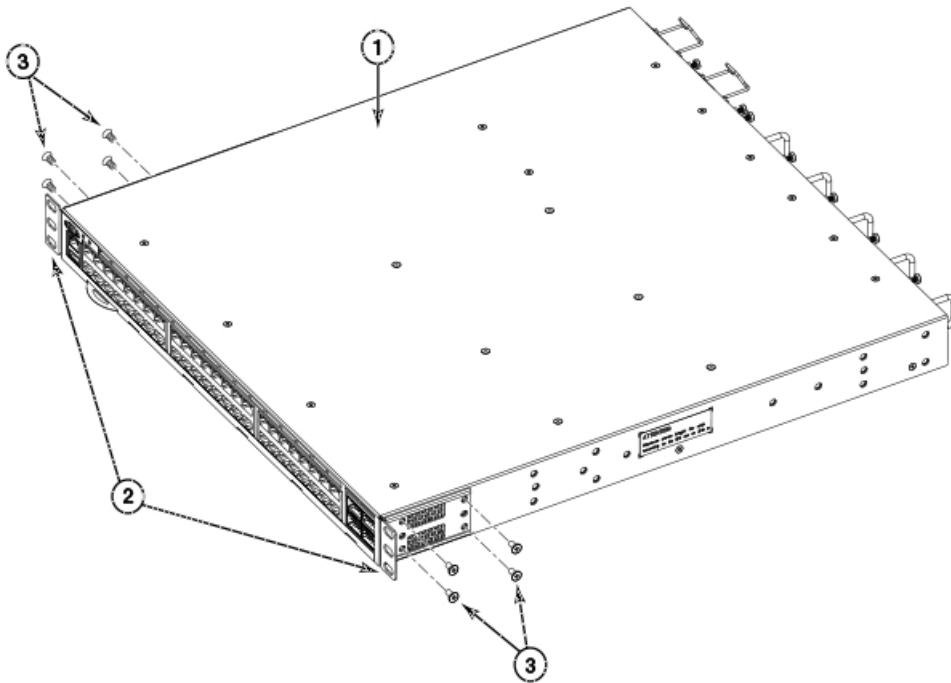

Figure 4. Attaching the front brackets
1. Position the right front bracket with the flat side against the right side of the device at the front of the device, as shown in Figure 4 on page 18.